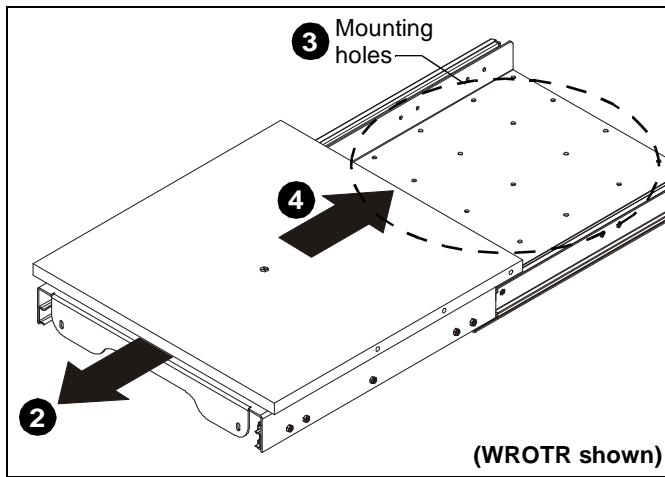

Figure 2
2. Slide top of base forward, exposing bottom of base. (See Figure 2)
3. Attach ST-/WROTR base to mounting surface using fasteners (not included) which are appropriate size and type for the mounting surface. (See Figure 2)